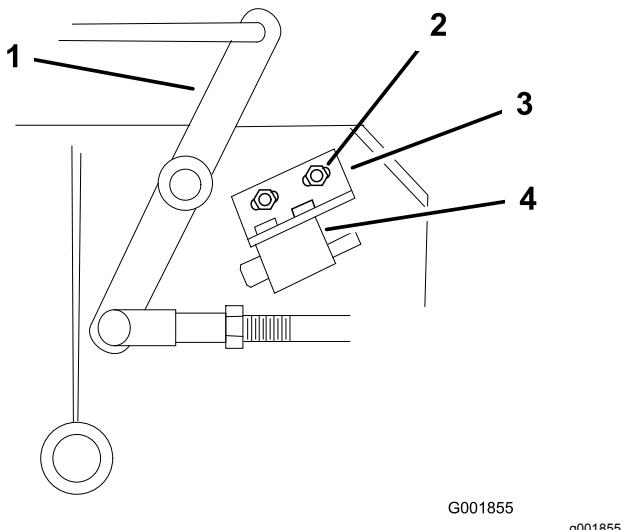

Figure 51
4. If needed, adjust the blade safety switch by loosening the bolts holding the switch bracket (Figure 51).
Make sure that the bellcrank **does not** touch the switch body or damage to the switch could occur (Figure 51).